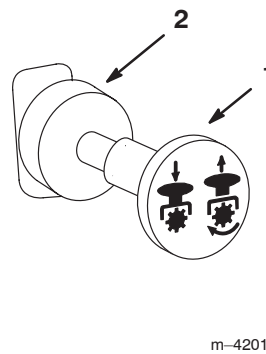

Figure 11
3. Move the PTO (power takeoff) to Off (Fig. 11).